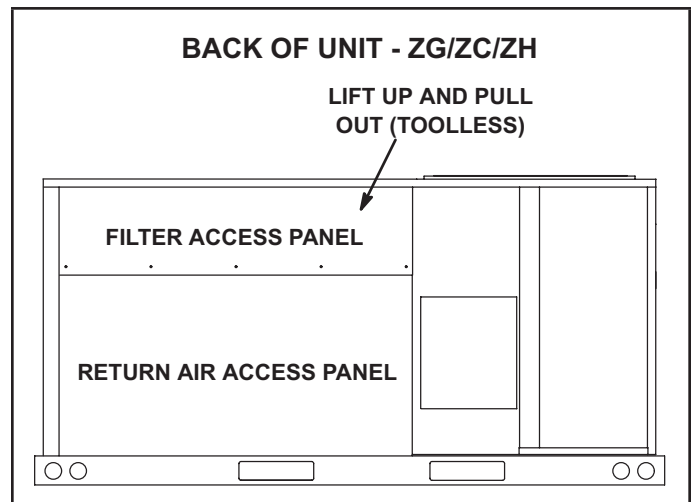

FIGURE 1
- 2 - Remove filter access panel and return air access panel. If hood is already installed, remove hood. See FIGURE 1.